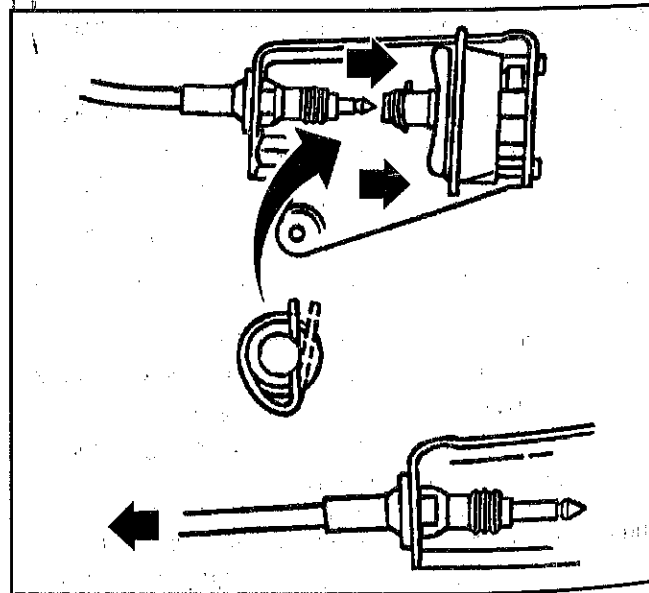

Figure 17—Disconnecting the Shift Cable from the Vacuum Actuator
- A. Bend the tang on the lock spring as shown in Figure 17.